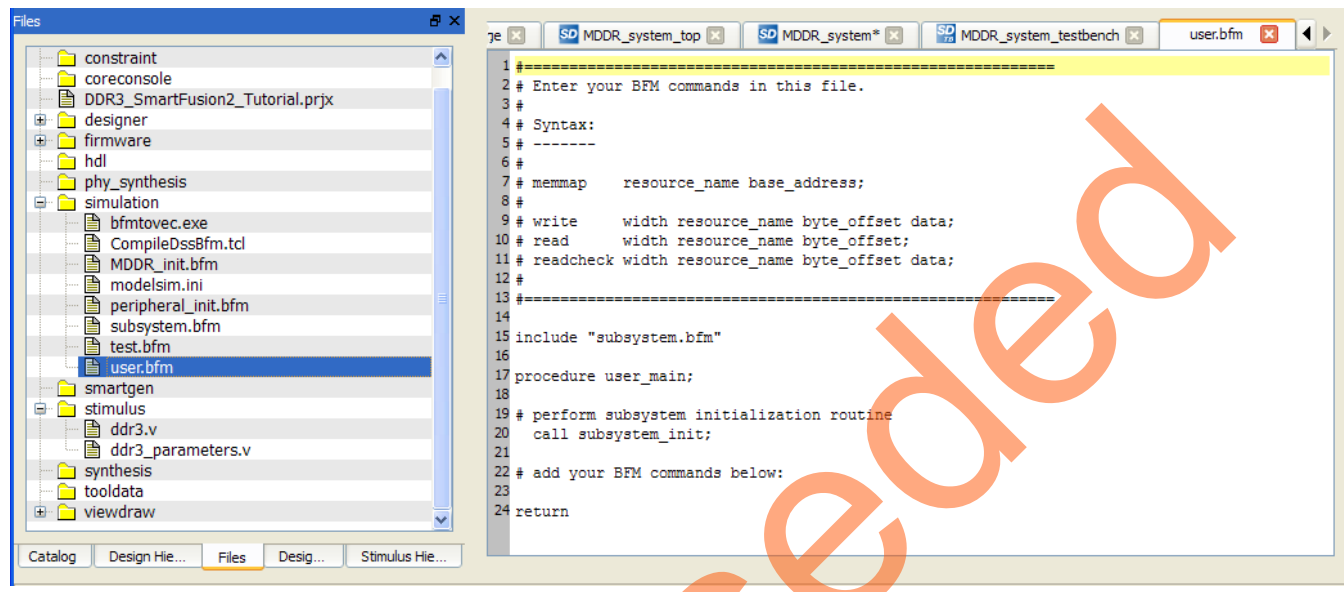

Figure 31. SmartDesign Generated user.bfm File
1. Open the user.bfm file. To open the user.bfm, go to the **Files tab > Simulation** folder, double-click the user.bfm. The user.bfm file is shown, as shown in Figure 31.